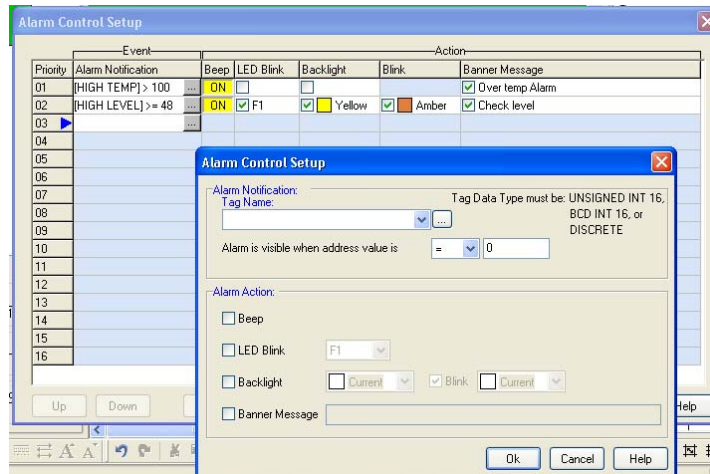

Figure 6
- an Alarm condition (Figure 6),